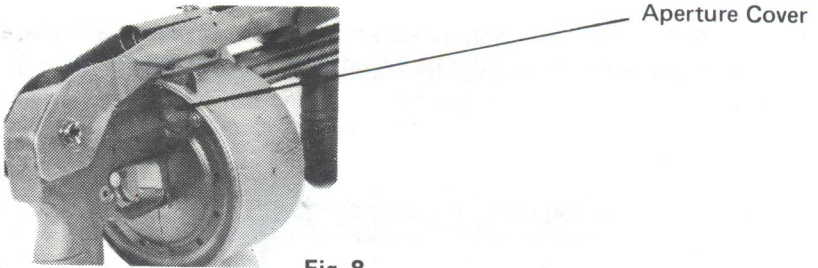
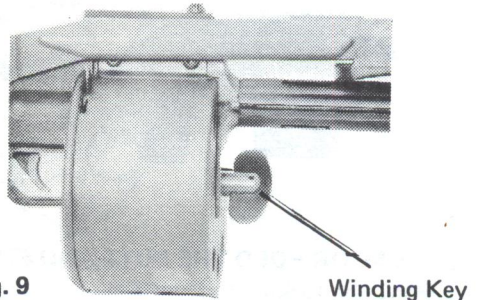

Fig. 8.
Fig. 9
- 2) Open the aperture cover (Fig. 8).
- 4) Using the winding key (Fig. 9) advance magazine to next chamber position (Magazine to rotate anti-clockwise as viewed through the aperture).
- 2) Open aperture cover (Fig. 8). (Always ensure that cover is completely opened).
- 3) Wind up spring motor until fully wound using winding key (Fig. 9). (Magazine to rotate anti-clockwise as viewed through the aperture (Fig. 8).
- 7) Wind up spring motor until fully wound using winding key (Fig. 9). (Magazine to rotate anti-clockwise as viewed through aperture).
- 4) Advance the magazine by turning the winding key (Fig. 9). (Magazine to rotate anti-clockwise as viewed from the aperture).
- 3) Wind up spring motor until fully wound using winding key (Fig. 9). (Magazine to rotate anti-clockwise as viewed from the aperture).